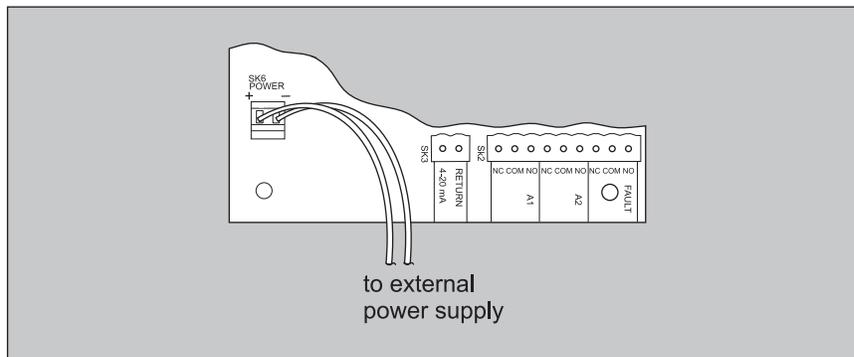

Figure 2: Connections for external 24 VDC power supply
2. Connect the unit to a separate 24 VDC power supply. Using the existing plug connector, connect the power as shown in Figure 2. The 24 volt power supply must be a regulated supply capable of supplying 1 amp of current. Ensure that the cable from the PointGard II power supply is removed before attaching the external power supply.